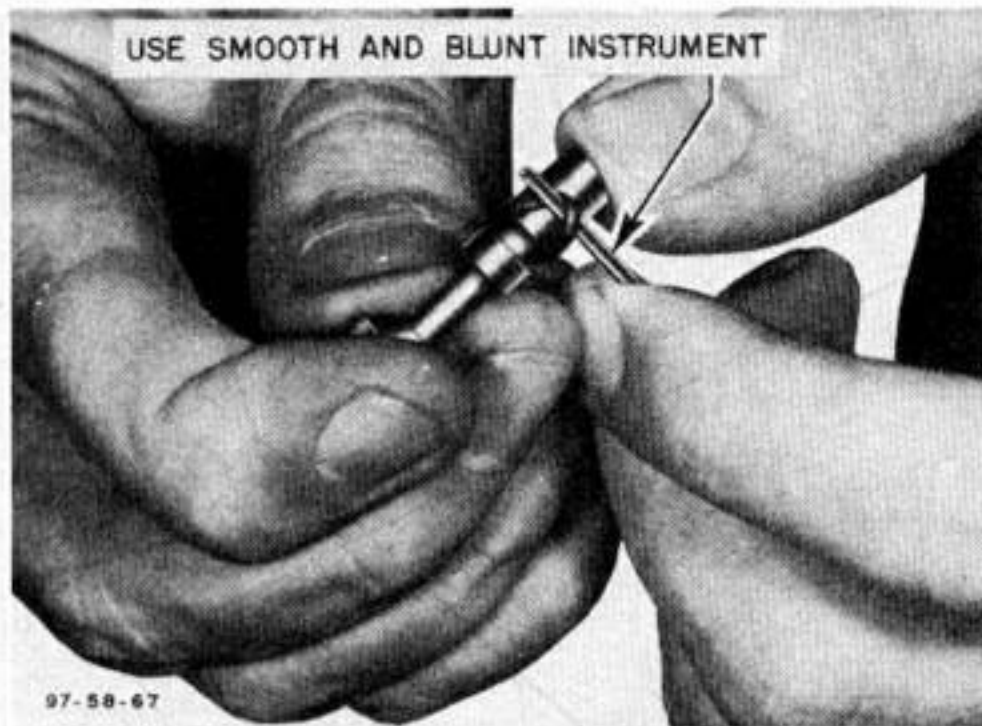

Figure 304—Removing Small Ring Seal
- (See figures 304 through 308.)
(1) REMOVING AND DISASSEMBLING HYDRAULIC SYSTEM UNITS.